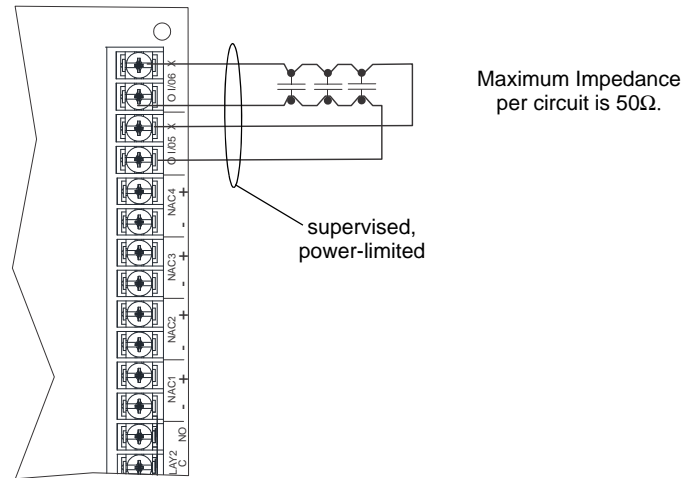

Figure 4.47 Class A Initiating Switches
1. Wire the Class A switch as shown in Figure 4.47.
NOTE: In programming any point that uses multiple Flexput circuits, the lowest Flexput circuit number is used to refer to the circuit pair. For example, Figure 4.47 uses both Flexput circuit 5 and 6, so in programming it would be referred to as point 5.